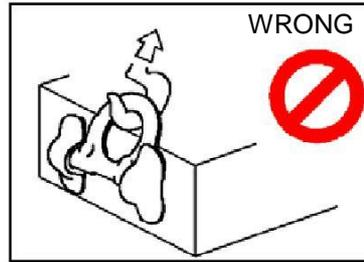

Figure 2
- ⌘ Apply partial load and check proper alignment. There should be no interference between load (work piece) and weld-on load ring (Figure 2).